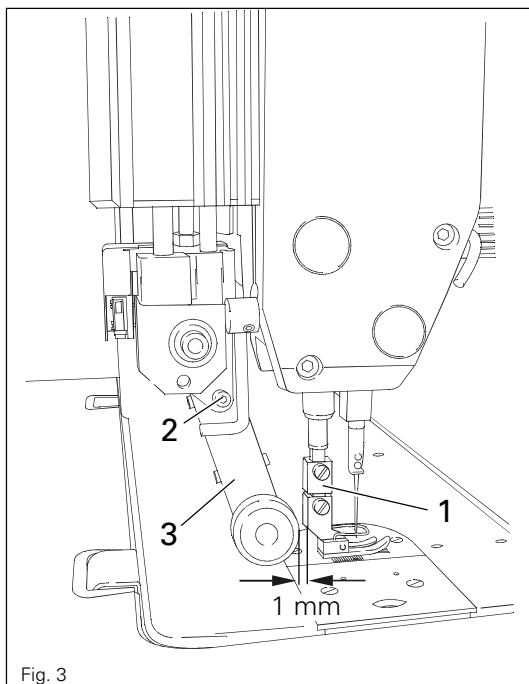

Fig. 3
- Mount adapter 1 as shown in Fig. 3.